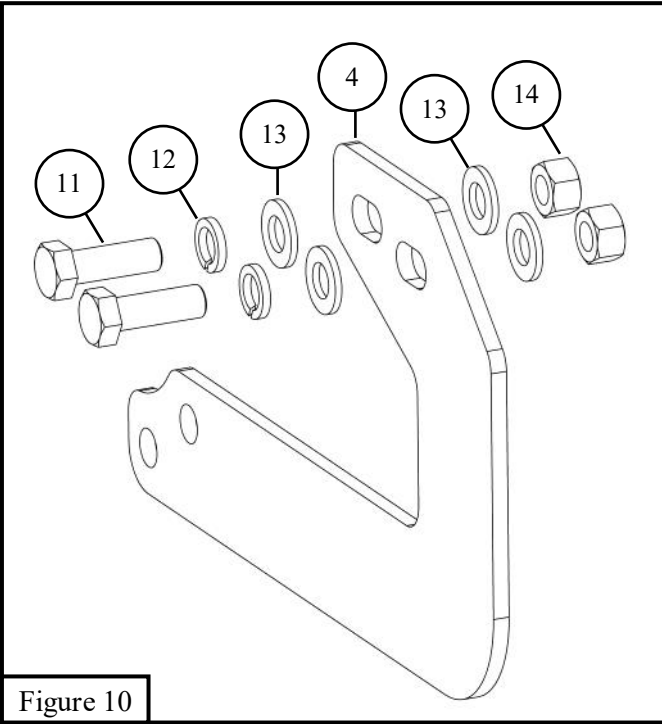

Figure 10
17. One each side of the truck, loosely install (1) lower support bracket (**item 2**) on the outside of the frame where the factory hardware was removed in the previous step. See **Figure 10**. Trim the bumper valence as needed to install the lower support bracket.